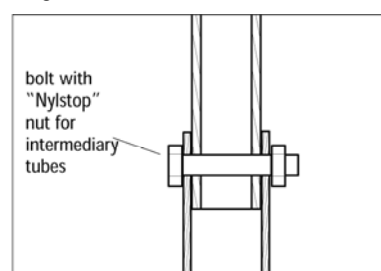
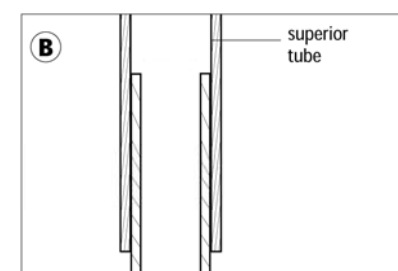
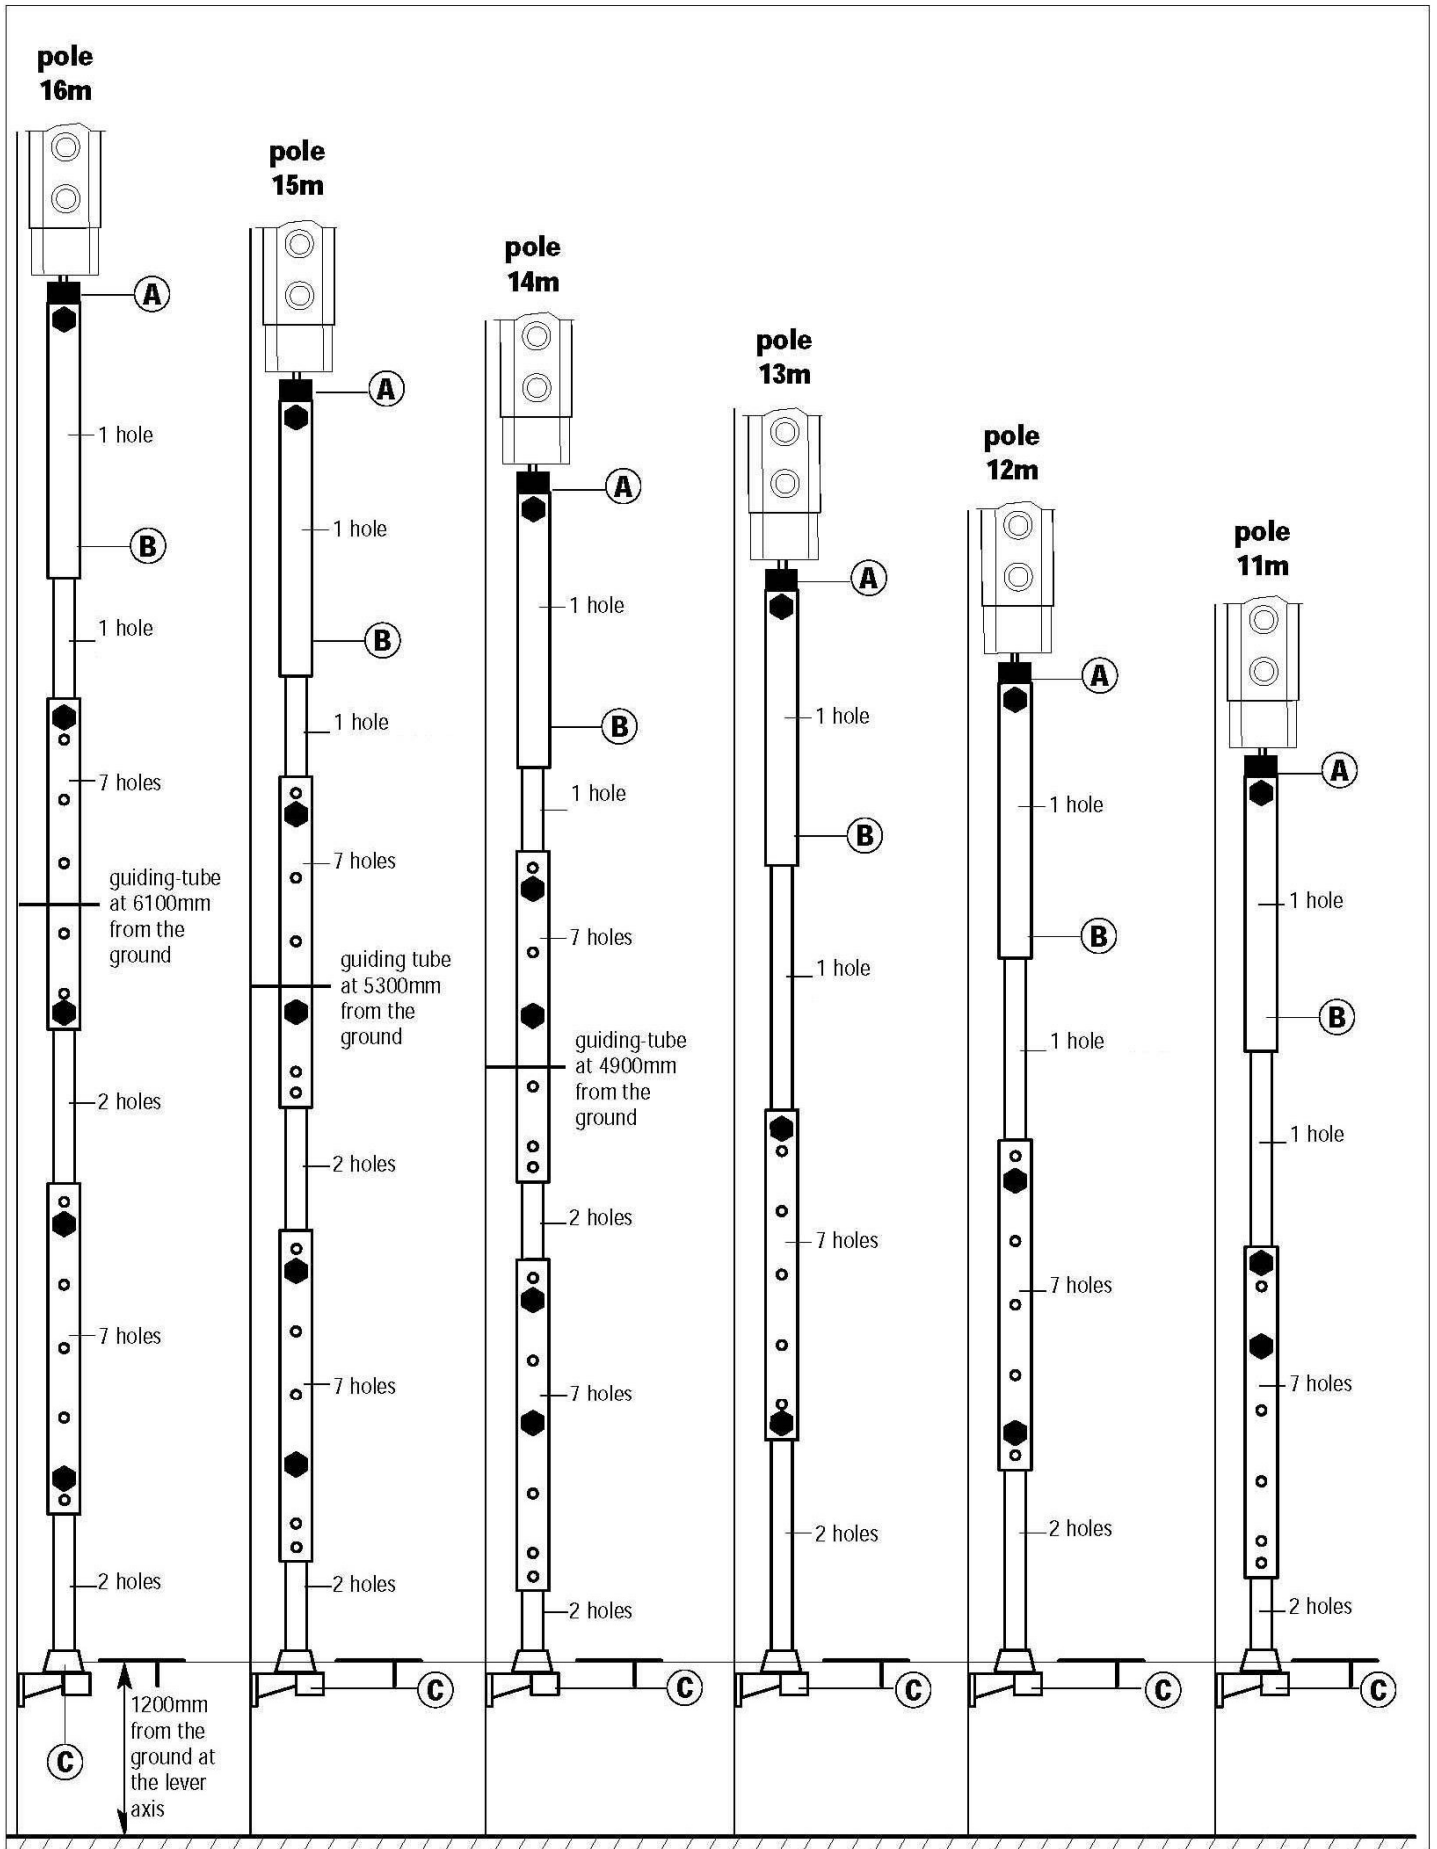

fig. 15
fig. 16
fig. 17
The rotary rod assembly is telescopic. It is made of square tubes fitted into each other. (fig.17).
-either in the switchgear packaging or in a separate packaging. The lever and the screws and bolts are always delivered in the switchgear packaging. The standard rod assembly (poles between 11 and 13m) is made up of 4 tubes. For 14 to 16m poles, a 2-tube additional rod assembly plus a guiding tube are necessary (fig.17 page 9).
- Fix the manual control lever at 1200mm (fig.17) from the ground using the adapted mounting accessories.
-Assemble the required number of tubes, as shown in (fig 15), according to the pole length (fig 17). The last superior tube must be free and sliding inside the tube assembled to the tank (fig 16). All the assembled tubes are supported by the rotary bearing.